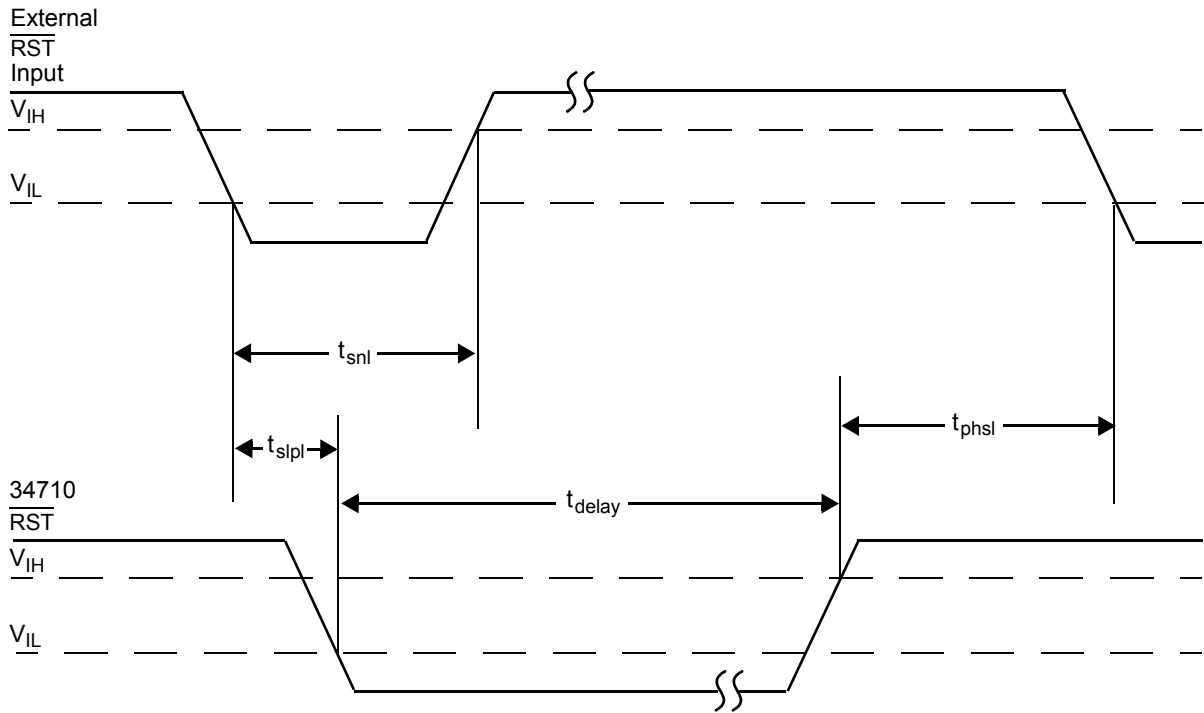
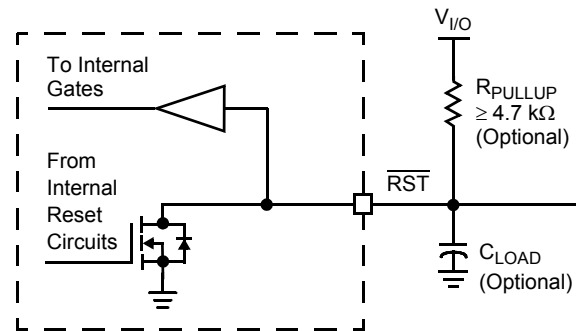

Figure 2.  $\overline{\text{RST}}$  Timing
Figure 3.  $\overline{\text{RST}}$  Terminal Interface
12. See Figure 2. RST Timing, page 9.
The  $\overline{\text{RST}}$  output is an I/O device with an open drain output driver with a pullup and a CMOS digital input gate (Figure 3). This I/O structure allows wired OR connection to the MCU's  $\overline{\text{RST}}$  I/O terminal, as well as allowing the MCU to initiate a reset cycle by driving its  $\overline{\text{RST}}$  terminal low. When responding to a MCU request for a reset cycle, the 34710 must respond rapidly enough to prevent a glitch. Figure 2, page 9, shows the timing